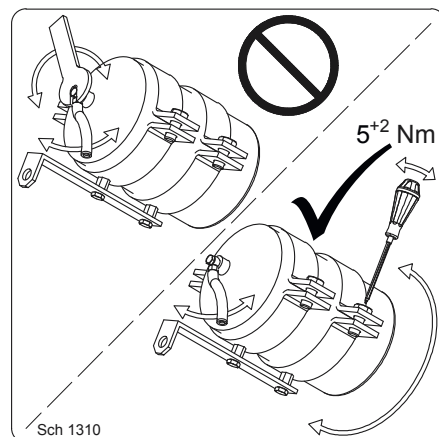

Fig. 12: SCH-1310
1. Sufficiently loosen the pipe clamps by opening the tensioning screws; see information label on tank (Fig. 12).